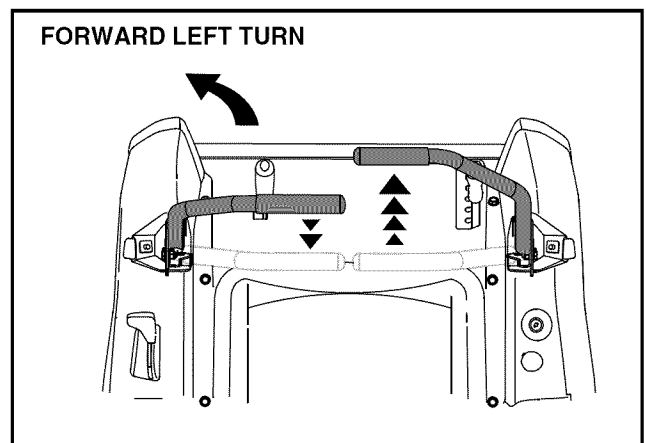

Figure 14
- To turn to the left, move the left drive control lever rearward of the right lever. See Figure 14.